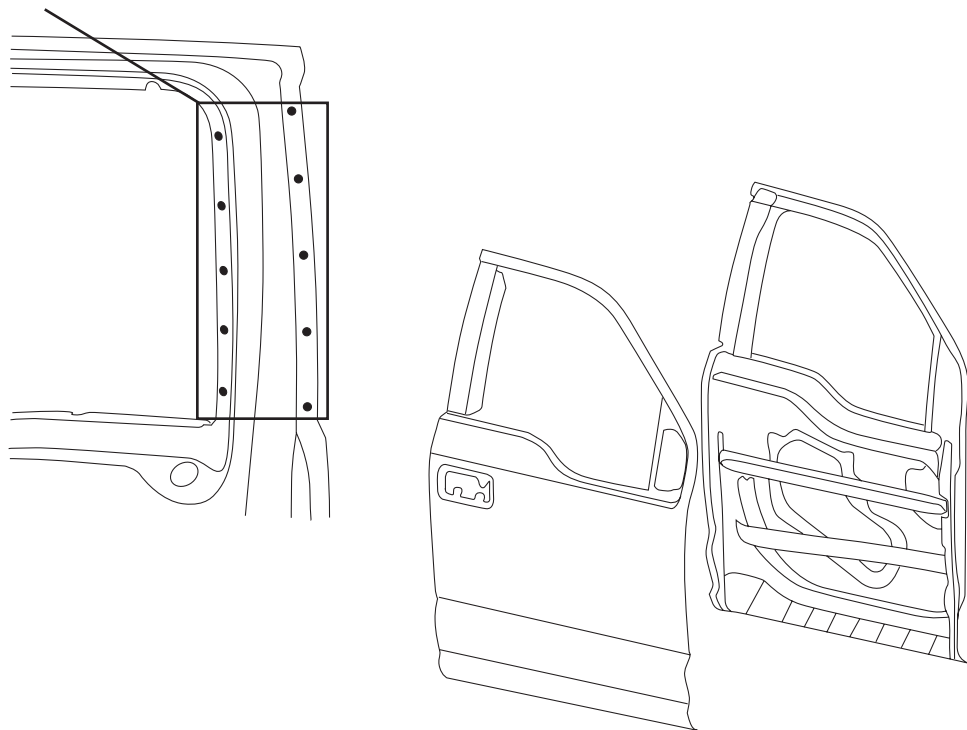

FIGURE 2
17. Install ten (10) (W708717-S900) SPR rivets code AW, or (W790376-S900) ten (10) solid rivets. (Refer to Figure 2)